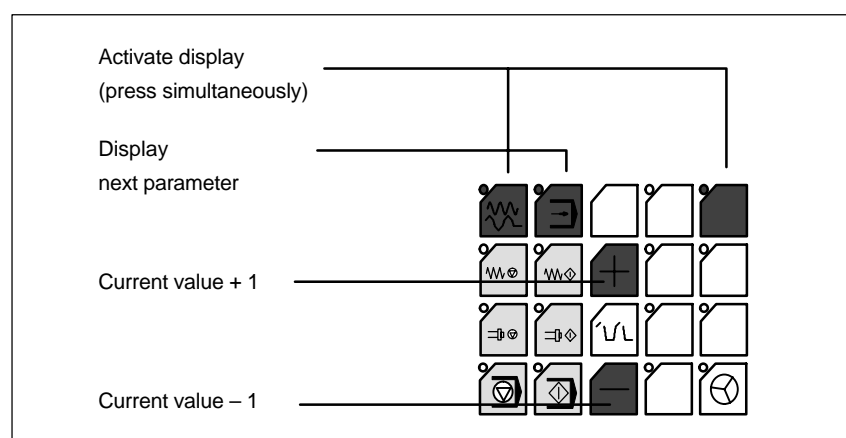

Fig. 5-13 Displaying and modifying GD circle parameters
The current values of the GD circle parameters of the HHU can be set and/or checked on the HHU display (see Fig. 5-13).
While the message “Waiting for PLC” is displayed on the HHU display, the uppermost right and left keys must be pressed simultaneously (see Fig. 5-13). Then the first GD circle parameter is displayed.
The value of a GD circle parameter can be modified within its admissible range of values using the + or – keys (see Fig. 5-13).
Use the 2nd key from the left in the uppermost key row (see Fig. 5-13) to advance to the next parameter. After the last GD circle parameter has been reached, the set values will be automatically saved in the HHU (flash EPROM).
5. Check the HHU GD circle parameters (see: Fig. 5-13, page 5-158).